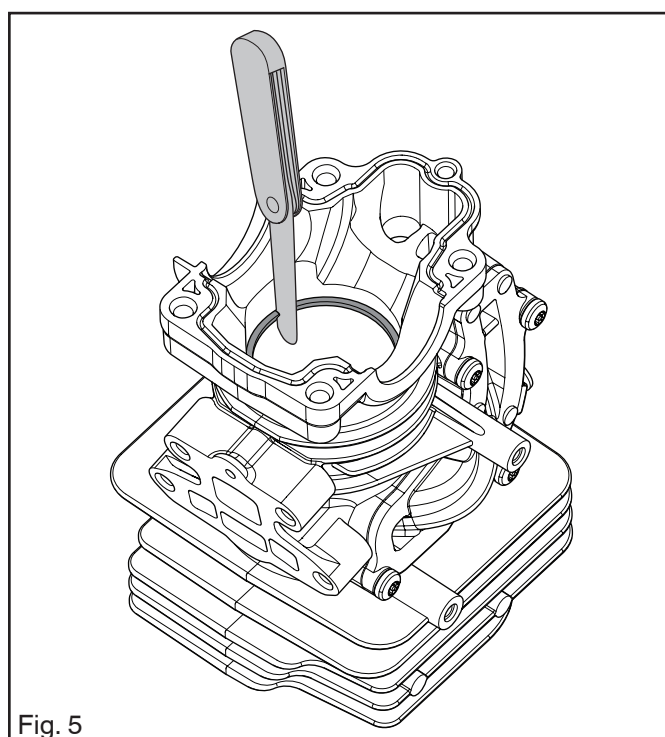

Fig. 5
5. Measure the wear on the piston ring by placing it the cylinder and measuring the gap. See figure 5. The clearance must not exceed 1 mm.